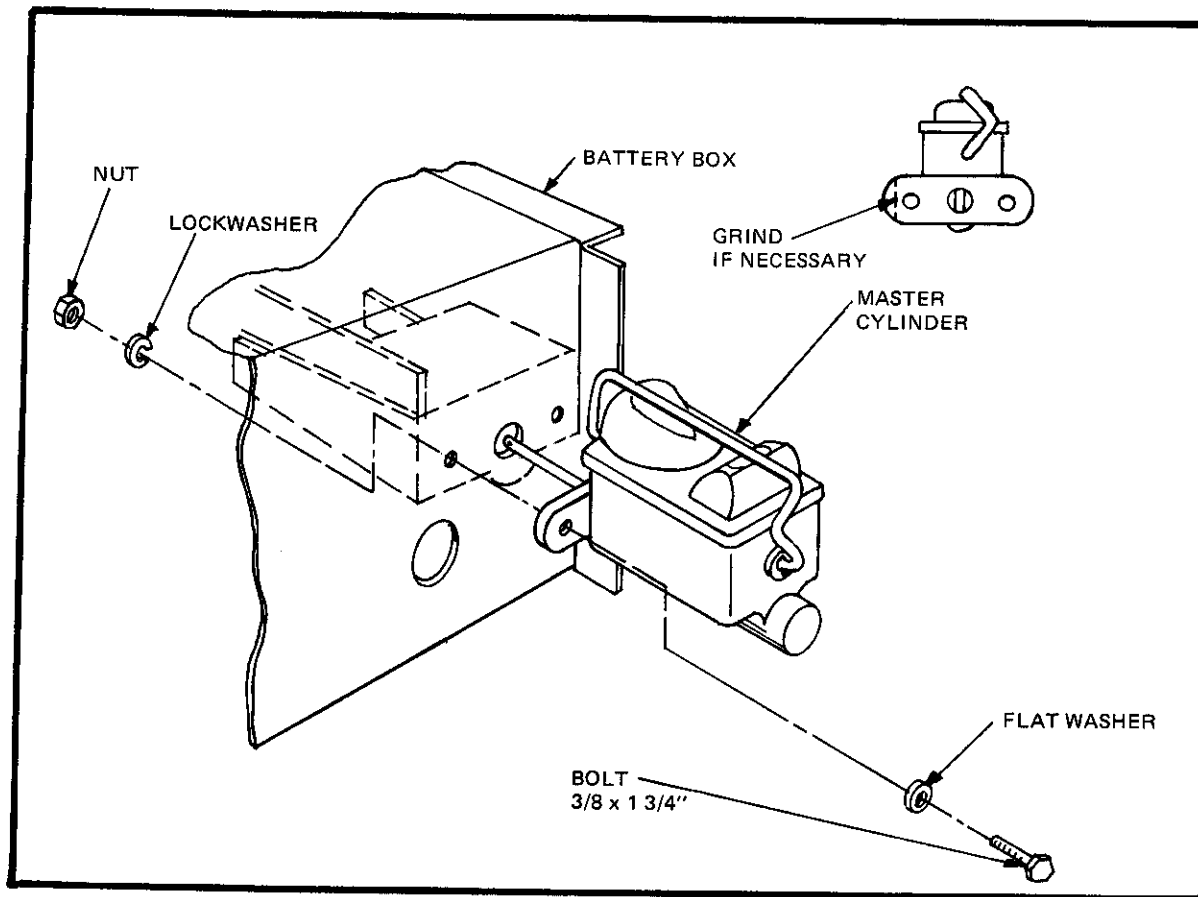

Figure 19
- ☐ Remove accelerator cable bracket from engine. Remove rubber boot from around master cylinder push rod. Insert unit into hole on the front of the battery box and into the frame. Grind down outside edge of master cylinder to clear battery box, if necessary. Secure with $3/8 \times 1 \frac{3}{4}$ inch bolts with flat washer, lock washer and nut. Reinstall boot over pushrod. (Figure 19)